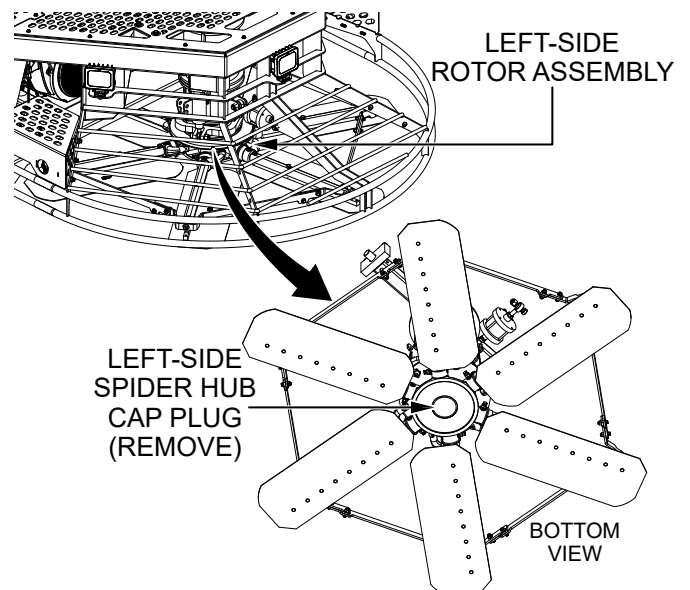

Figure 52. Remove Left-Side Spider Hub Cap Plug
2. Remove the left-side **spider hub cap plug** (Figure 52) and set it aside.